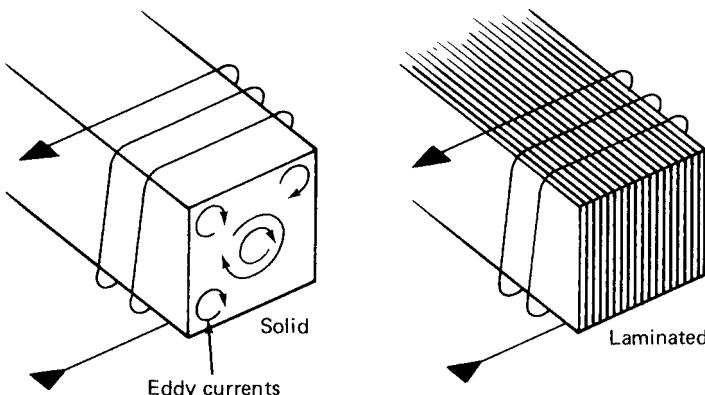

Figure 8-21 Solid core versus laminated core to eliminate eddy currents.
3. *Eddy currents:* These are very small but create losses in the transformer core. They are small currents created in the core when the magnetic fields change (see Fig. 8-20). Eddy currents generate heat. They flow in a direction opposite to the current that induced them. The effect is to resist the flow of current in the core. Eddy currents can be minimized by using laminations. Laminating is the building of an object through the use of several layers of material. When this method is used, each lamination is varnished. Varnishing insulates the layers from each other. This increases resistance to eddy currents. Figure 8-21 shows how a solid core has high eddy current losses and a laminated core practically eliminates current losses.